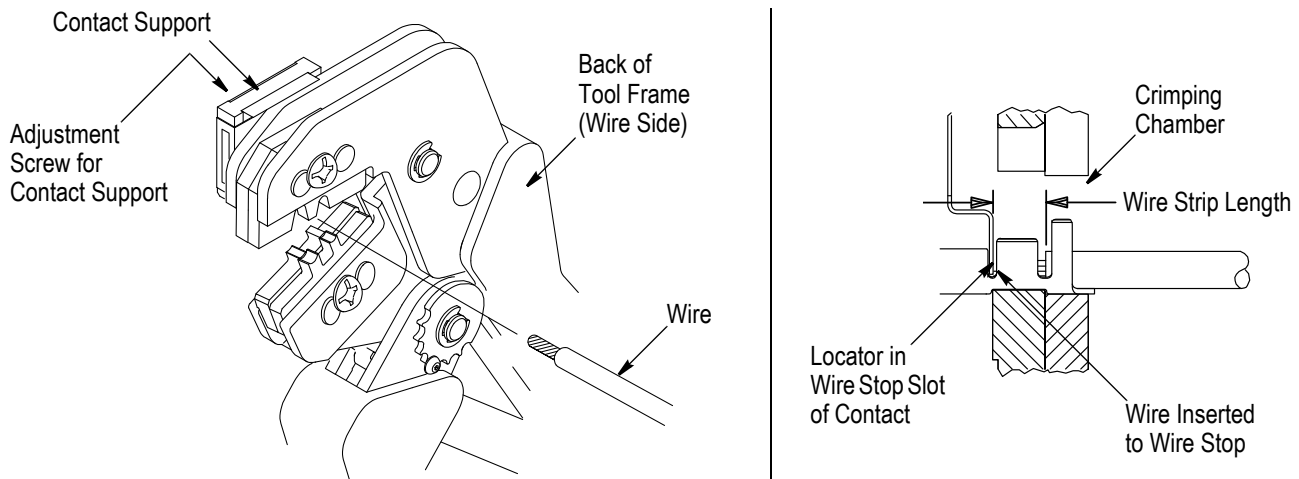

Figure 3
the tool frame. Place the contact up into the crimping chamber so that the locator drops into the slot in the contact. Refer to Figure 3. Butt the front end of the wire barrel against the locator.
5. Insert the stripped wire into contact insulation barrel and wire barrel until it is butted against the wire stop as shown in Figure 3.
NOTE  *The crimped contact may stick in the crimping area; however the contact can be removed by pushing downward on the top of the locator (see Figure 3).*